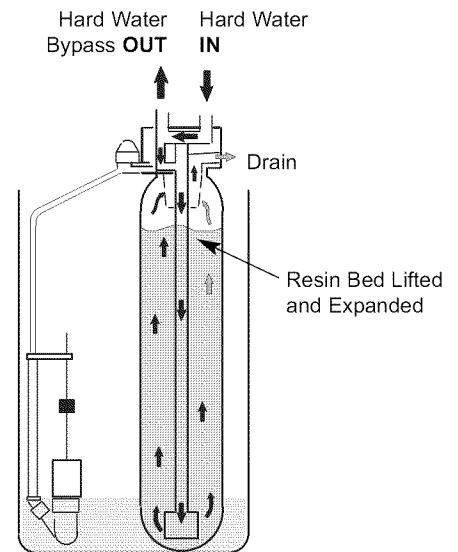

FIG. 39
**BACKWASH:** During backwash, water flows UP through the resin tank at a fast rate to flush iron minerals, dirt and sediments from the bed and to the drain. The bed lifts and expands for good cleaning. See Fig. 39.